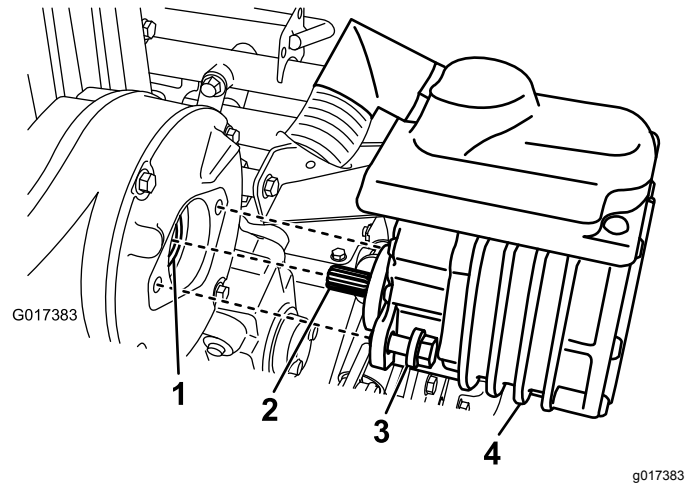

Figure 38
2. Remove the 2 bolts securing the motor to the transmission case (Figure 38).
4. Add one to two pumps of grease from a grease gun to the female coupler in the transmission case (Figure 38).